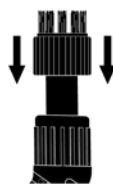

FIGURE 2
2. Press Utility Brush as far back as possible to ensure it is properly seated and to avoid any steam leakage (FIGURE 2).